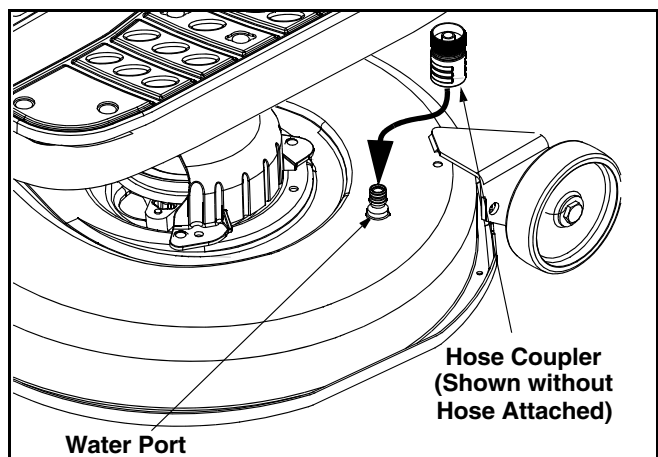

Figure 18
4. Attach the hose coupler to the water port on your decks surface. See Figure 18 .